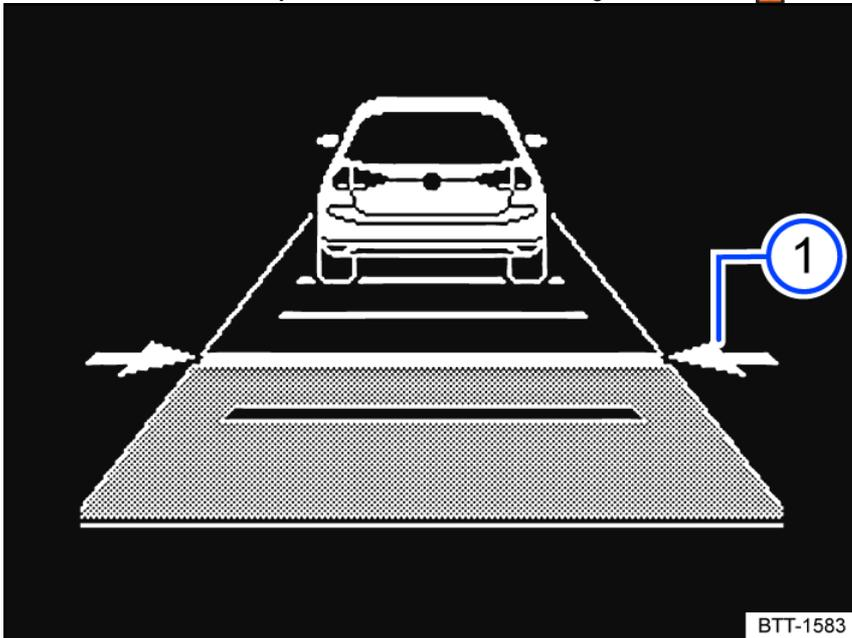

Fig. 132 In the instrument cluster display: set distance ① (schematic diagram, ACC is regulating).
The instrument cluster display shows the selected level *fig. 132* ①. Note the country-specific regulations for minimum distance.